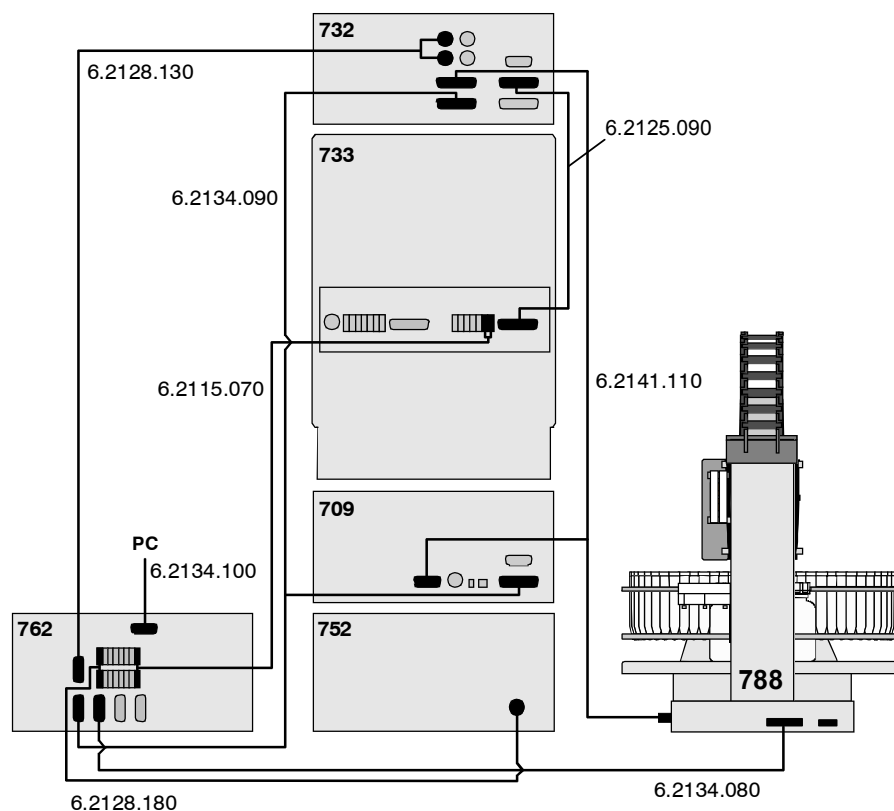
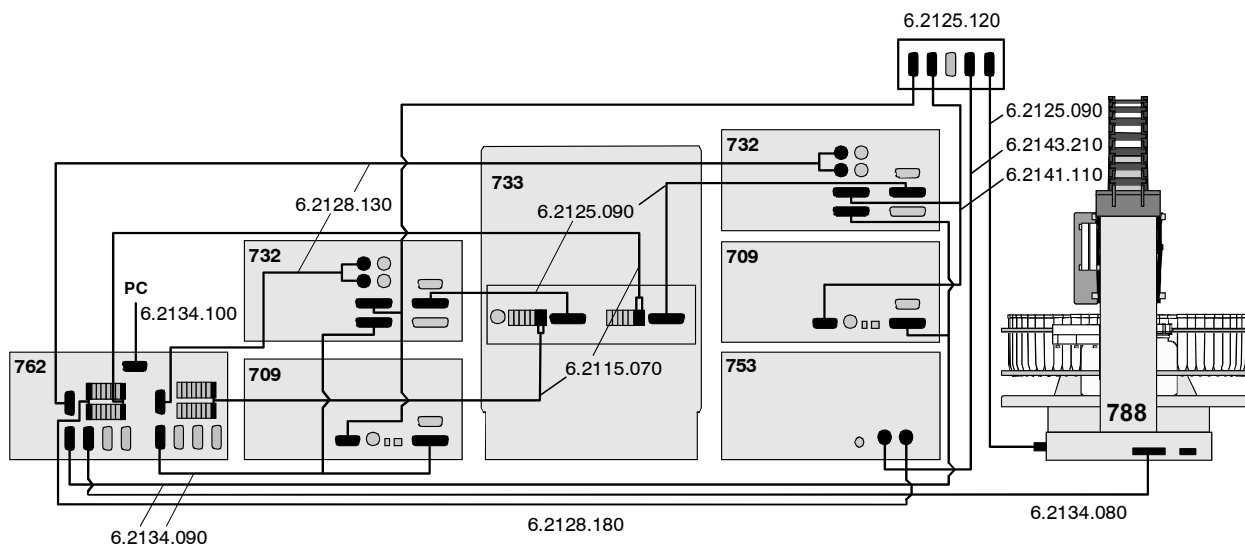

Fig. 14: Interconnection with anion IC system with chemical suppression (MIC 2)
Fig. 15: Interconnection with the combined anion and cation IC system with chemical suppression (MIC 3)
- Take PTFE suction tubing **84** (see Fig. 14 and Fig. 15 of the 732/733 Instructions for Use) completely out of connection **22** or **28** and unscrew from connection "1" of injection valve **66**.
The 788 IC Filtration Sample Processor is connected to an anion IC system with chemical suppression consisting of 732 IC Detector, 733 IC Separation Center, 709 IC Pump, 752 IC Pump Unit, and 762 IC Interface as shown in Fig. 14 using the 6.2141.110 remote connection cable and the 6.2134.080 RS232 cable.
The modular anion and cation system can be operated with chemical or electronic suppression. The 788 IC Filtration Sample Processor is connected to the MIC 3 system consisting of two 732 IC Detectors, 733 IC Separation Center (two injectors), two 709 IC Pumps, 753 IC Suppressor Module (if suppression is used), and the 762 IC Interface as shown in *Fig. 15* using the 6.2125.120 remote adapter, the 6.2125.090 remote connection cable and the 6.2134.080 RS232 cable.